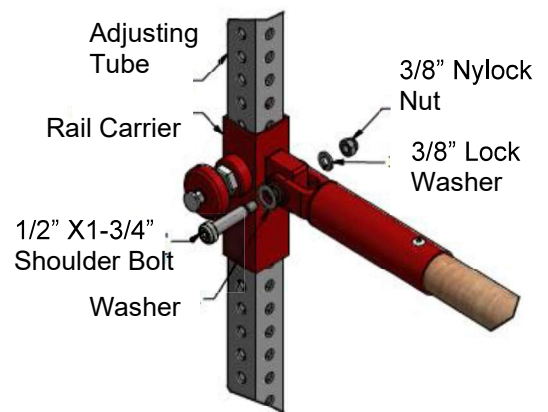

Fig. 5
1. Now place **(1) Rail** into both **Rail Carriers** across from one another to determine the proper location of the **Upright** (see **Fig. 5 & 7**).